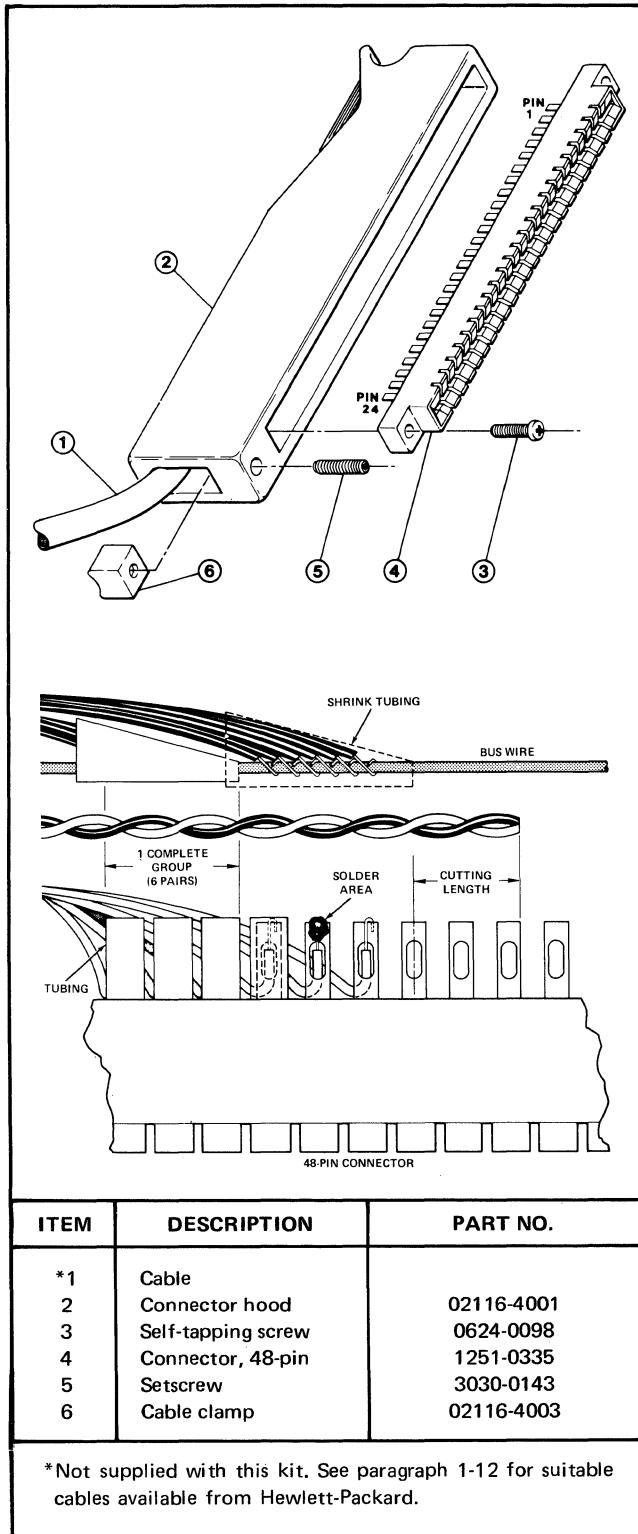

Figure 2-2. Cable Fabrication Diagram and Parts List
- (1) Solder the six signal wires to their respective pins on the connector and insulate each pin with tubing as shown in figure 2-2.
- (2) Solder the six ground wires to the bus wire and insulate with shrink tubing as shown in figure 2-2.
- f. Repeat substeps (1) and (2) with the remaining groups of wires until all wires are soldered to the connector and insulated.